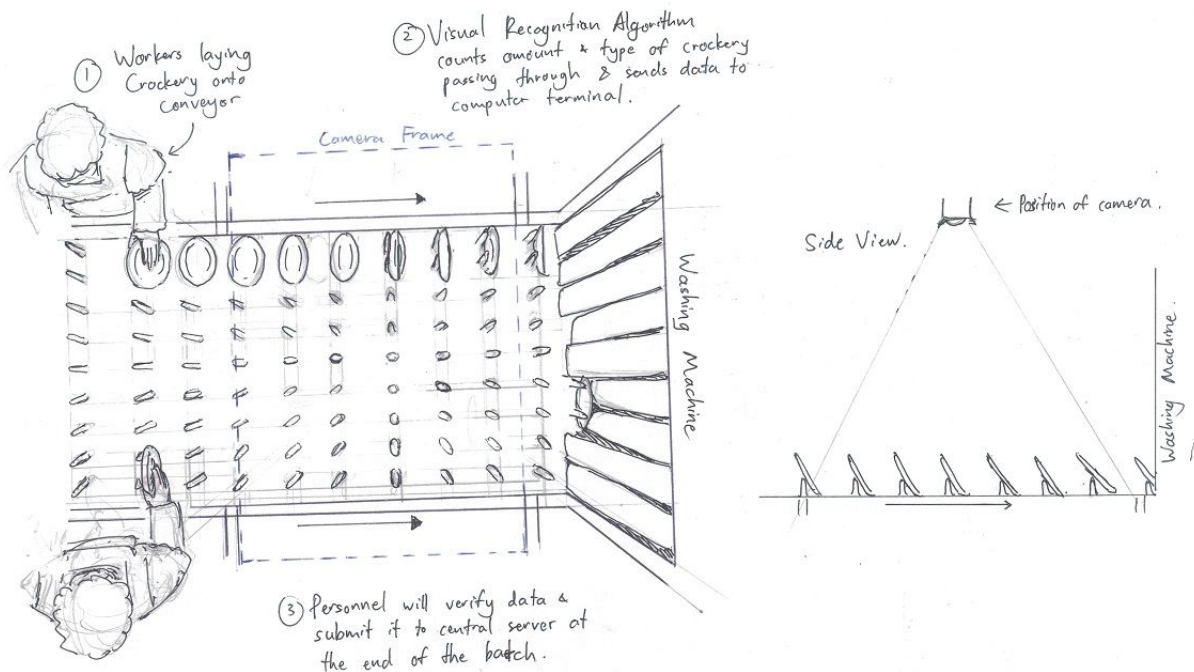

Fig 4-2. Illustration of proposed Crockery Counting System
3. As the conveyor belt brings crockery into the field of view of the mounted camera (See Fig 4-2), the visual data will be processed through a pre-trained visual recognition algorithm that automatically counts the number and type of crockery.